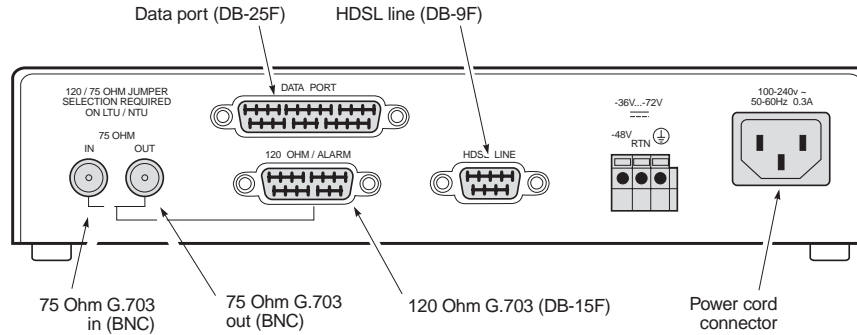

Figure 6. ERE-811 List 2 Rear Panel
- 4 Connect the DS1 port cable DB-15F (Figure 6 on page 8), if applicable.
- 5 Connect the Nx64K data port cable DB-25F (Figure 6), if applicable. The following adapters can be used when connecting the cable:
- 6 Connect the HDSL line port cable DB-9F (Figure 6). The following adapter can be used when connecting the cable: